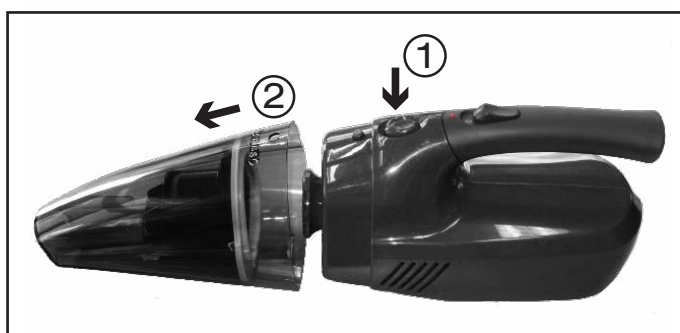

FIG.1
- Press the unlocking button and pull the dust container out gently (FIG.1).